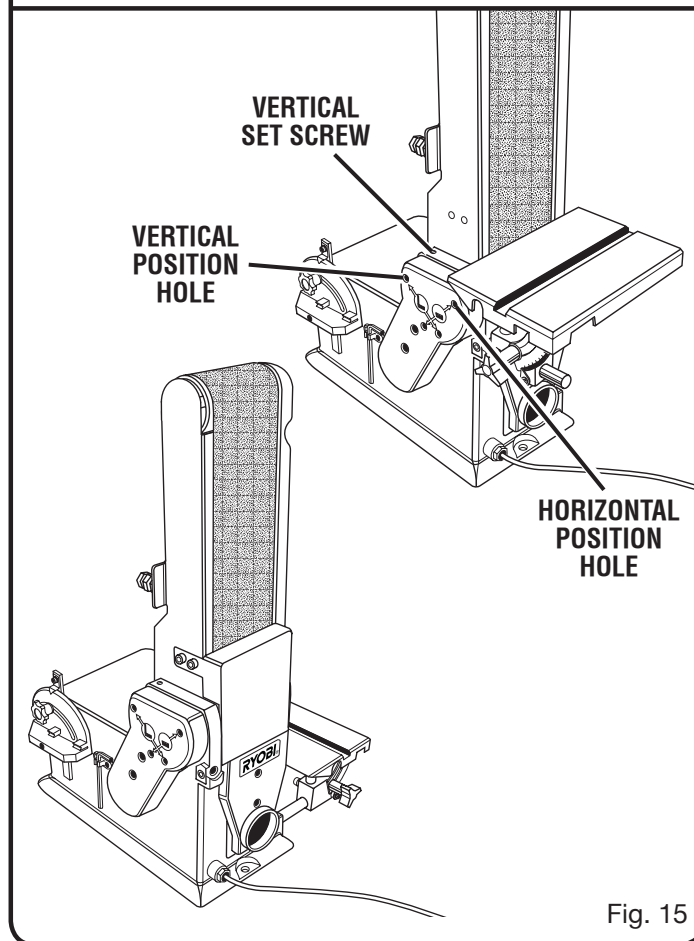

Fig. 15
See Figure 15.
- Move the sanding belt into a vertical position as shown in figure 15. Vertical position can be adjusted using the vertical set screw.